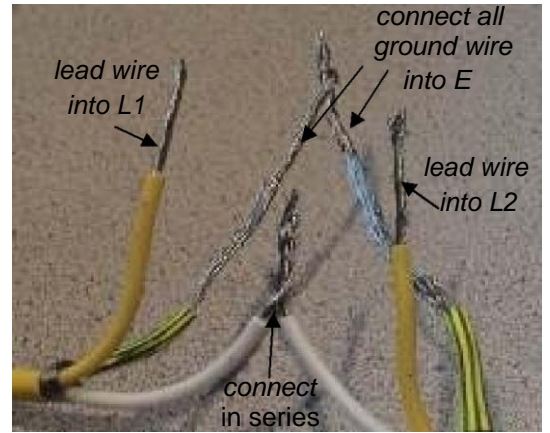

Figure 3
2. FOR UP TO THREE MATS OR CABLES: Connect one lead wire (not the ground wire) from one mat or cable into the L1 terminal. Connect one lead wire (not the ground wire) from a DIFFERENT mat or cable into the L2 terminal. Now connect the remaining lead wires so the mats or cables are in a "series" with one another. If this is not done properly, the screamer may not correctly monitor the mats or cables. Lastly, connect all the ground wires from the mats or cables together to the E terminal. See Figure 3.